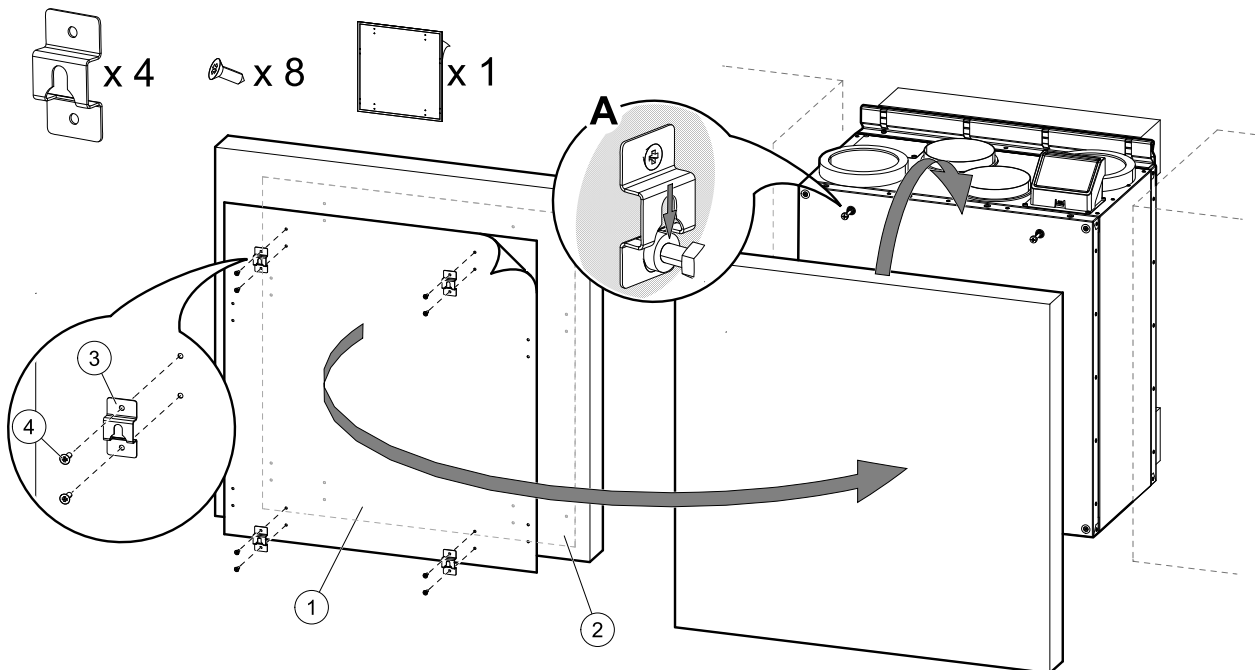

Fig. 21 Installation of hooks and mounting of the kitchen furniture panel
2. Sticker with marked holes (figure 21, pos. 1) is included with the unit. Holes mark spots for screws to secure hooks. Place the sticker on a back of the kitchen furniture panel, figure 21, pos. 2), adjust position of the sticker according to the panel size and position of the unit between cabinets. Size of the sticker is the same as the unit.
Once correct position is found, attach four hooks (figure 21, pos. 3) by fastening each with two screws (figure 21, pos. 4). Hang the kitchen furniture panel on protruding bolts (figure 21, pos. A).